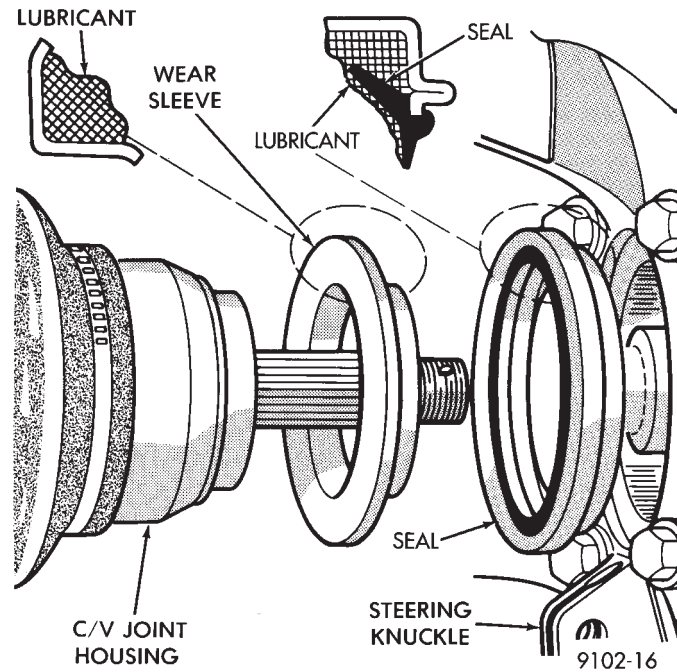

Fig. 12 Seal and Wear Sleeve Lubrication
(4) Lubricate the FULL circumference of the bearing seal (and wear sleeve) as shown in (Fig. 12). With Mopar® Multi-Purpose Lubricant, or equivalent.